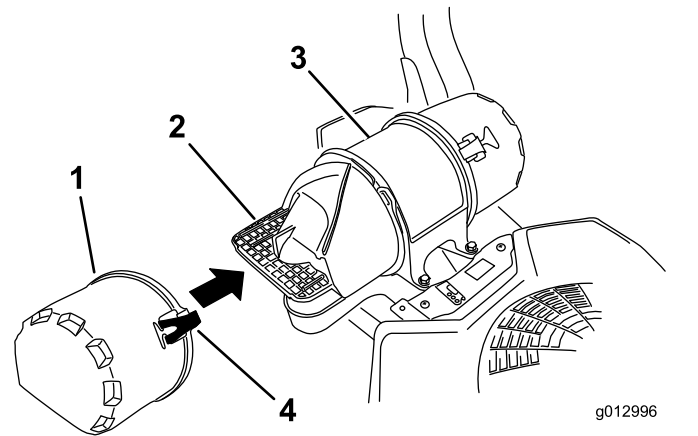

Figure 43
3. Release the latches on the air cleaner, and pull the air-inlet cover off the air-cleaner body (Figure 43).
5. Install the air-inlet cover and secure it with the latches (Figure 43).